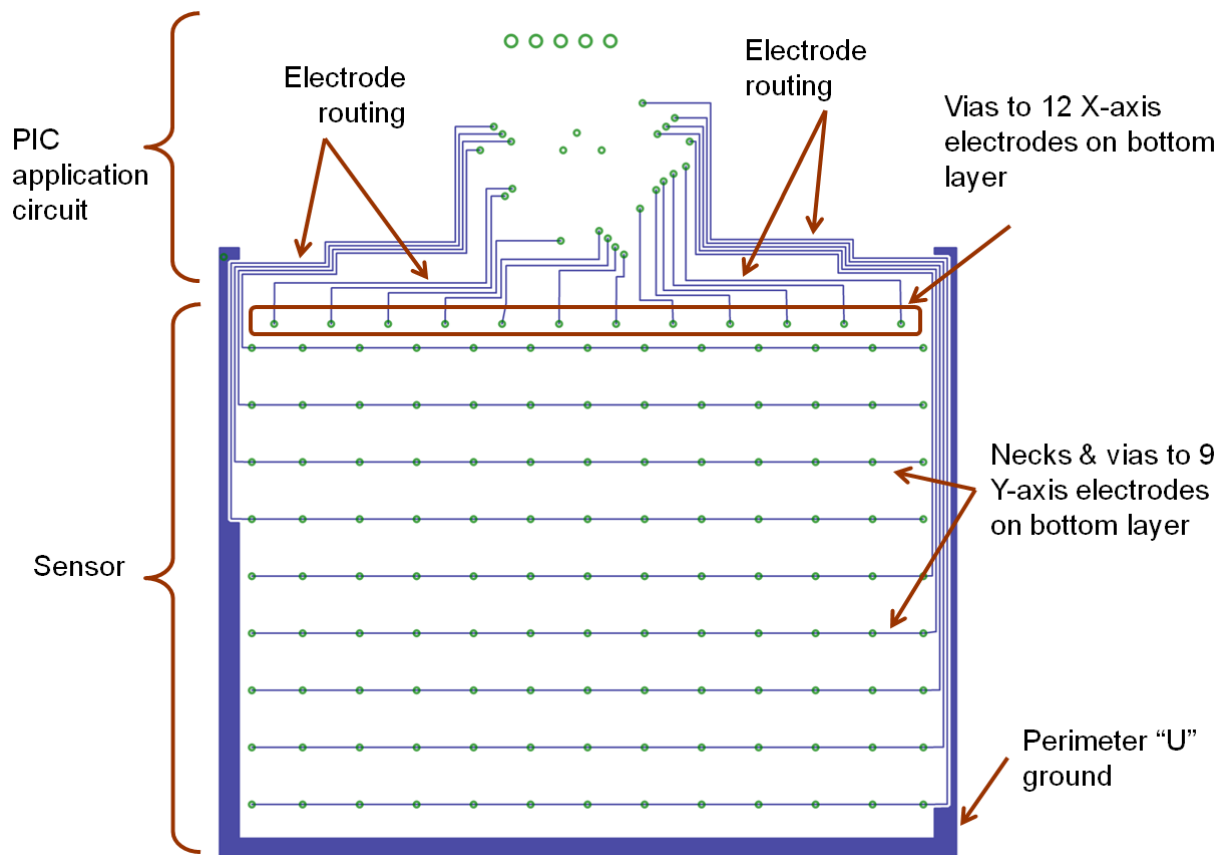

Figure 10 : PCB Example – 3rd Layer Copper
- Figure 10 : PCB Example – 3rd Layer Copper.....10*